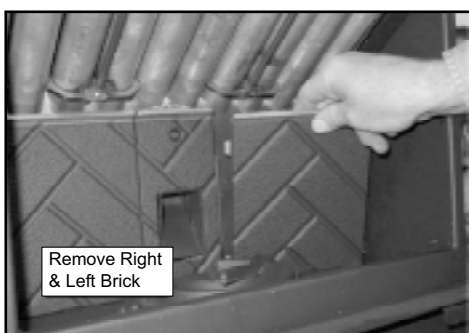

Figure 34.2
3. The top baffle must be removed before you can remove the right and left brick. Remove the right brick by holding top lip of brick and lifting up, then push outside edge back. Slide brick to the right until it is flush with the firebox. Rotate the inside edge of the brick forward and remove brick. Repeat for left brick. **Figure 34.2**.